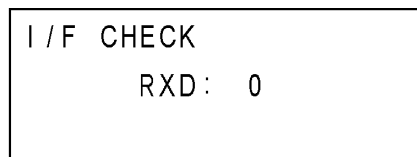
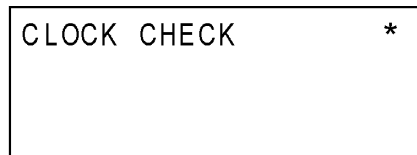

Fig. 43
Fig. 44
- (1) Press the "RET" key. The display shifts to one as shown in Fig.43.
- (2) The machine checks the RS-232C I/F port. (Displays "RXD" on the LCD).
- (3) Press the "RET" key while the LCD displays as shown in Fig.43. The display shifts to the Clock Display Mode as shown in Fig.44.